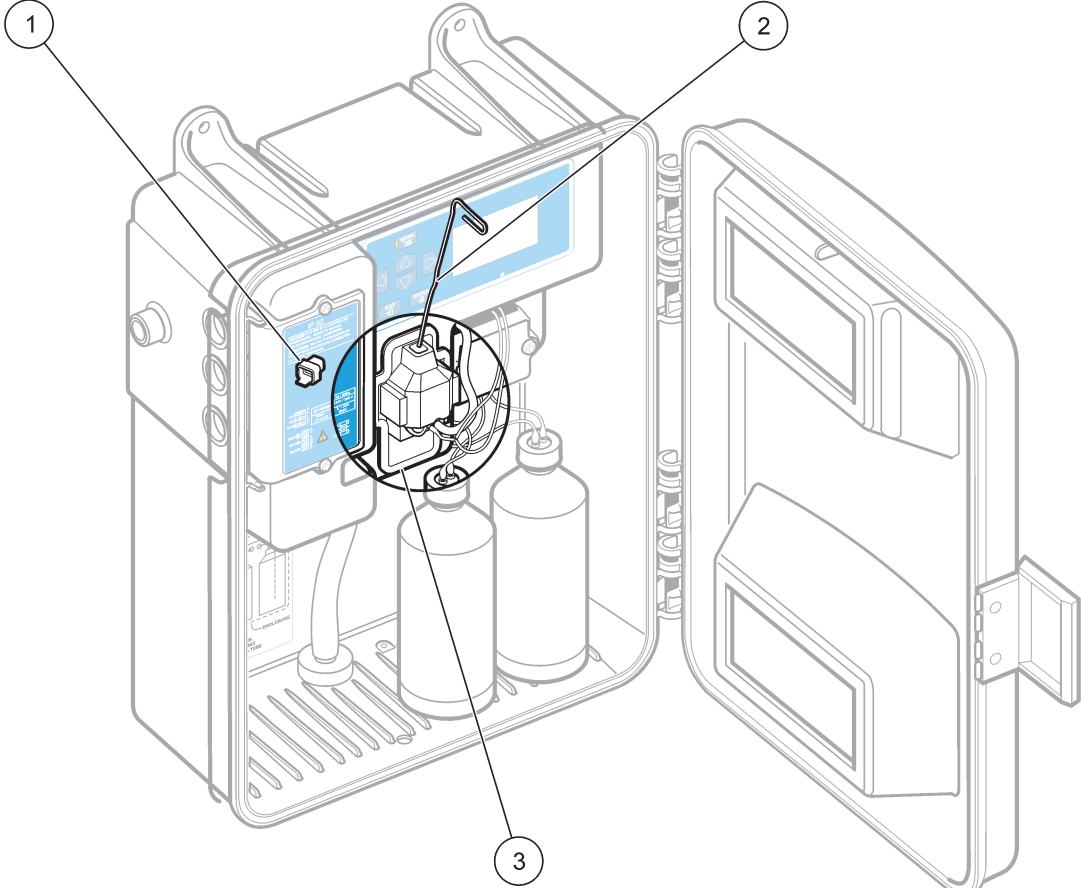

Figure 22 Removing the stir bar
3. Refer to Figure 22 and locate the colorimeter.
5. Remove the magnetic stir bar using a bent steel paper clip as a retrieval tool. Refer to Figure 22.